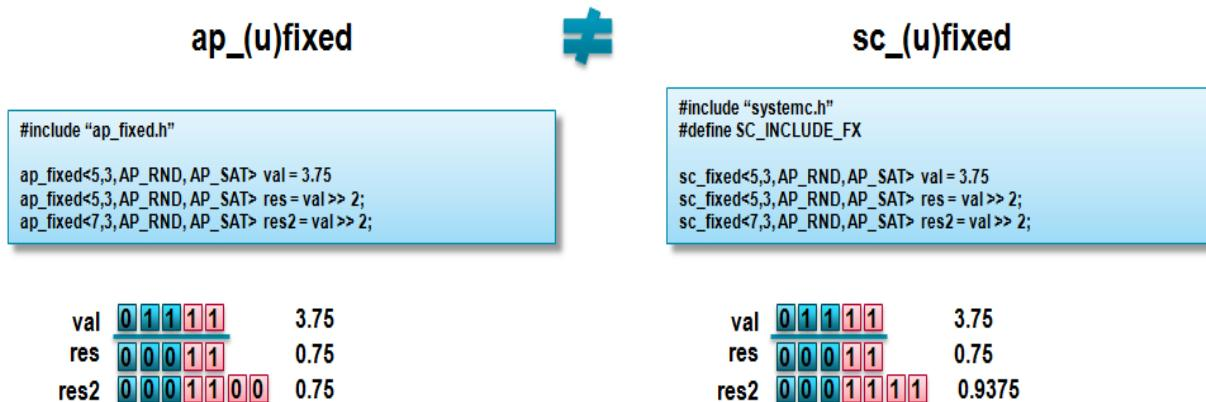

Figure 3-17: Fixed-Point Differences with Right-Shift
- Figure 3-17 shows an example of this operation for both Vivado HLS and SystemC types.